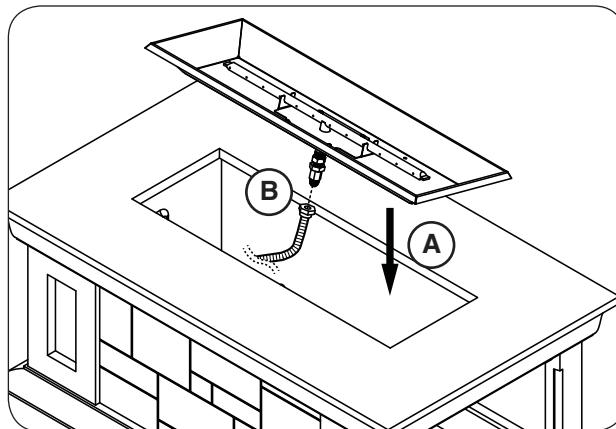

Fig. 16-4 Place burner and connect flex
3. Drop the burner assembly into the opening in the center of the firetable top (see Fig. 16-4, A).
4. Locate the flex connector (marked OUT) that is coming off the valve assembly. Route it to the connection found on the underside of the burner assembly and connect. Tighten securely. See Fig. 16-4, B.